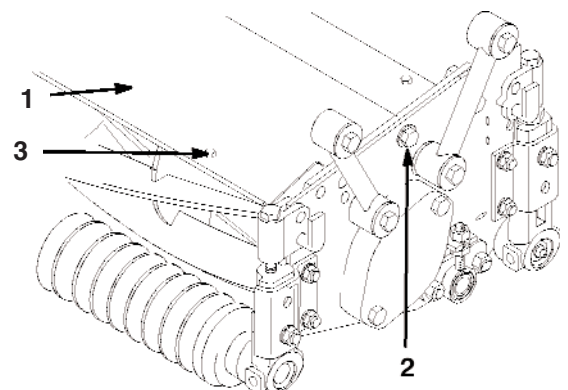

Figure 2
2. Loosen the pivot screw securing the shield to the side plate. Move the shield to the desired angle and tighten the screw (Fig. 2).